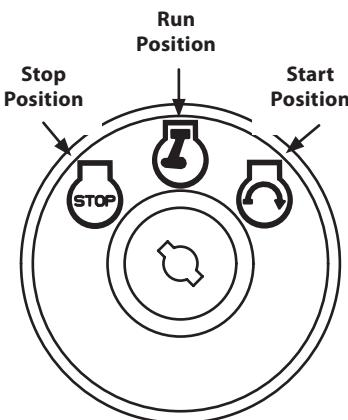

Figure 5-1
6. Turn the ignition key clockwise to the START position and allow engine to crank up to five seconds of each crank trial until started. After the engine starts, release the key. It will return to the RUN position. See Figure 5-1.